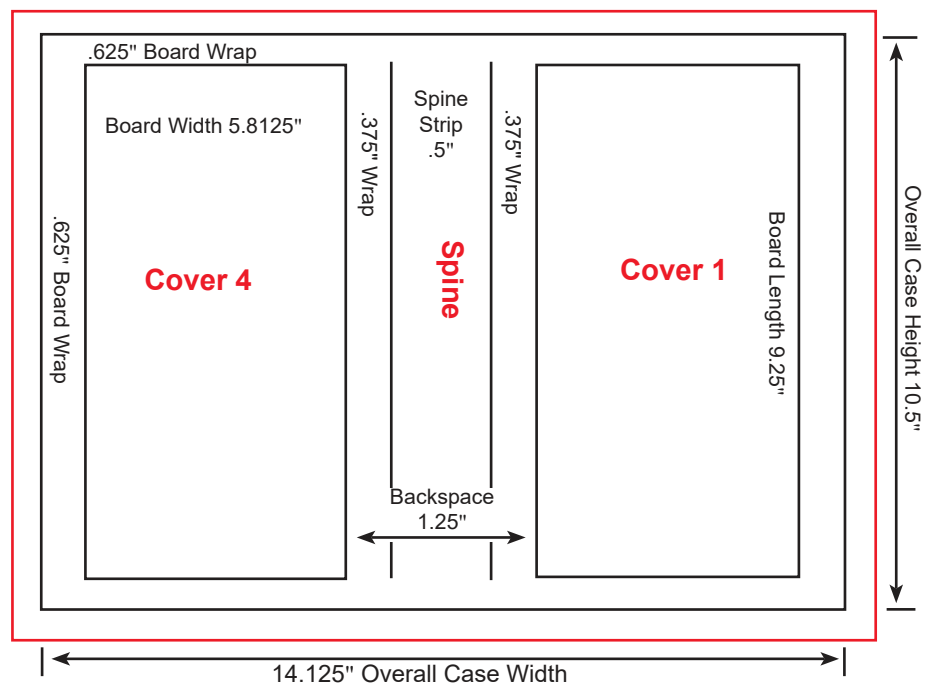

Figure 5
- File must be created in a spread format. Contact your CSR for a specifically measured layout to setup a printed case file. (See Figure 5)
- PDF Trim Box height must be 1/4" larger than text trim page height with including allowances for board wraps. The trim width will include allowances for board wraps, hinges and spine backspace. Contact your CSR for a specifically measured layout. (See Figure 5)
- File spreads must be setup in Landscape. (See Figure 5)
- Media box must be set at least 1/4" larger than the trim box. (See Figure 5)